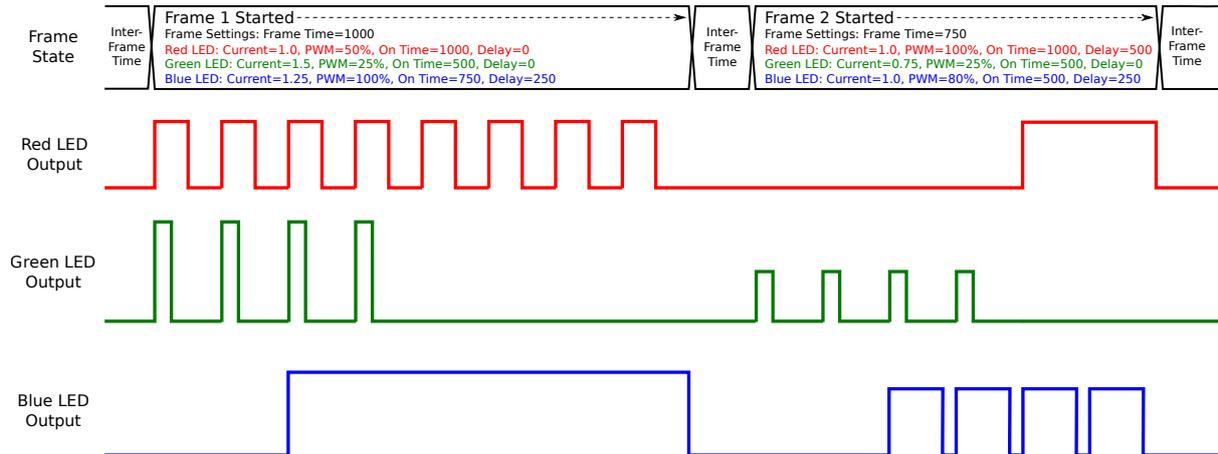

Figure 7.1: 3-channel LED output over two frames, with different LED Settings per channel and per frame.
The example in Figure 7.1 shows the behavior of three LEDs, red, green and blue, over the time period of two frames in a sequence. As we saw in Chapter 6, Frames have a frame time which defines how long the frame is exposed for, and has a list of LED settings, one for each channel. In the example, each of the three channels have different LED Settings including LED current, PWM percentage, LED on time, and LED delay time, and these LED Settings are varied between the two frames shown.
The LED current controls the brightness of the LED for the duration of the frame. The Ajile lighting controller has high speed control of LED current so that new current settings for a frame (which may be vastly different from the previous frame) take effect almost immediately. In Figure 7.1, we see that the red LED current remains a constant 1.0 over both frames. The green LED has a current value of 1.5 in the first frame while in the second frame its current drops to half its value to 0.75. We can observe this drop in current represented as a drop in green LED output amplitude (which will correspond to brightness of the actual physical LED). Similarly, the blue LED current setting drops from 1.25 to 1.0 over the two frames.
Note that the current in this example is of arbitrary units but is eventually mapped to amperes (A). Time units are also arbitrary in Figure 7.1, but can easily be mapped to seconds, milliseconds, etc.
The LED PWM is expressed as a percentage of the LED on time over a fixed repeating PWM period. In Figure 7.1 we see that the PWM period is $\frac{1}{8th}$ the frame time of the first frame since there are 8 individual PWM periods seen for the red LED which has a PWM of 50%, and its on time is for the full frame time. Frame 1 has a frame time of 1000 time units, therefore the PWM period in this example is $\frac{1000}{8} = 125$ time units. With a PWM percentage of 50% for the red LED in Frame 1, we therefore see that for half of each PWM period the red LED is emitting light, and for the other half of each 125 time unit length PWM period the LED is not outputting light. In Frame 2, the red LED has a PWM of 100%, meaning that the red LED will not be pulse-width modulated and so is on for the entire duration
LED on time is the amount of time that the LED will be left on from the time that it is first enabled during a frame. When an LED delay setting is not used (i.e. the delay is zero), then the LED will be turned on immediately at the start of the frame. In Figure 7.1, a short inter-frame time is shown in the frame state timeline to indicate the gap in between adjacent frames. After this inter-frame time, the frame begins. When no delay time is set, the LED is turned on immediately at this frame begin event. From the initial turning on event of the LED, the LED will remain enabled for the LED on time. In the example, the red LED on time is set to the frame time of 1000 time units for Frame 1 and so is on for the entire frame. The green LED however has on on time of 500 time units for Frame 1 which is half the total frame time, therefore the green LED is enabled for only the first half of the frame. The blue LED has an on time of 750 units for Frame 1 and so is on for 3/4 of the frame time. The blue LED also has a delay time set and so is not immediately enabled when the frame starts; delays will be discussed next.
In the example of Figure 7.1, the red and green LEDs have the delays set to the default of zero for Frame 1, and therefore are enabled immediately at the start of the frame. The blue LED on the other hand has a delay of 250 time units and so is enabled 250 units after the start of the frame. For Frame 2, the green and blue LED channels use the same delay values of 0 and 250 time units, respectively. The red channel on Frame 2 now has a delay of 500 time units specified and so it is enabled 500 after the beginning of the frame.
Note that in Figure 7.1, the red LED settings specify a delay of 500 and an on time of 1000, which would mean that the LED would actually be on for longer than the total frame time of 750 time units. This is not allowed by sequences. As a rule the lighting for each frame is independent of the last. The sequence verifier therefore will detect such cases and will clamp the total LED time, defined as the total on time + delay time, to be the frame time. Also it should be noted that delay times greater than the frame time result in the LED never being enabled for the frame. These cases will be flagged as warnings by the sequence verifier.
The list of LED Properties are iterated through and the descriptions and colours are output. Three new LEDSetting objects are then created to be used as default values for the red, green and blue LED channels. The values of the defaults are identical to those seen in the example of Figure 7.1. Note that the current units (the first argument of the constructor) is specified in milliamps, and the on time and delay times are given in milliseconds. Internally, all times are stored in 10 ns units, therefore a helper function FromMSec is used to easily convert from ms values to internal 10·ns units. Once the default LED Settings have been created, the defaults of the component can be updated using Project.SetDefaultLedSetting() for each of the three LED Settings. Finally, the updated default settings of the component are output. Note that the LED time accessor functions have the suffix MSec(), for example LedSetting.OnTimeMSec(). This convenience function performs the conversion of internal 10·ns units to ms. Other conversion functions to/from ns, μ s, and seconds are also available.